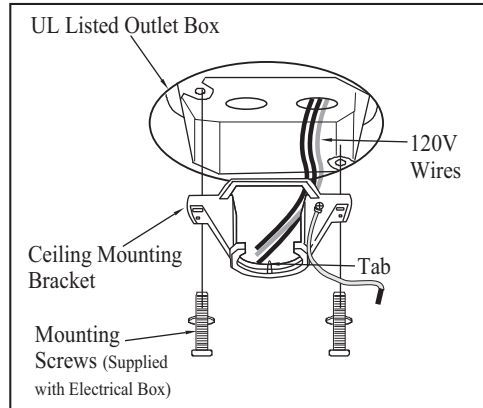

Figure 9
1. Pass the 120-volt supply wires through the center hole in the ceiling mounting bracket as shown in Figure 9.
2. Install the ceiling mounting bracket on the outlet box with the screws and washers provided with your outlet box. (Figure 9)